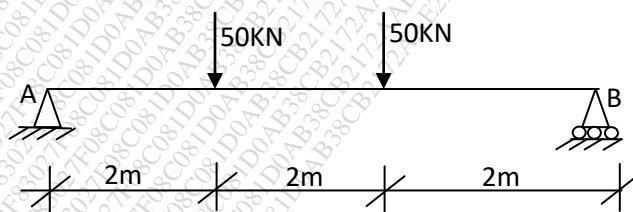

Figure 4
- Q.4 Analyse the beam as shown in fig.4 method using Macaulay's method and find maximum slope and deflection.  $E = 200\text{GPa}$ ,  $I = 80 \times 10^{-6}\text{m}^4$ .